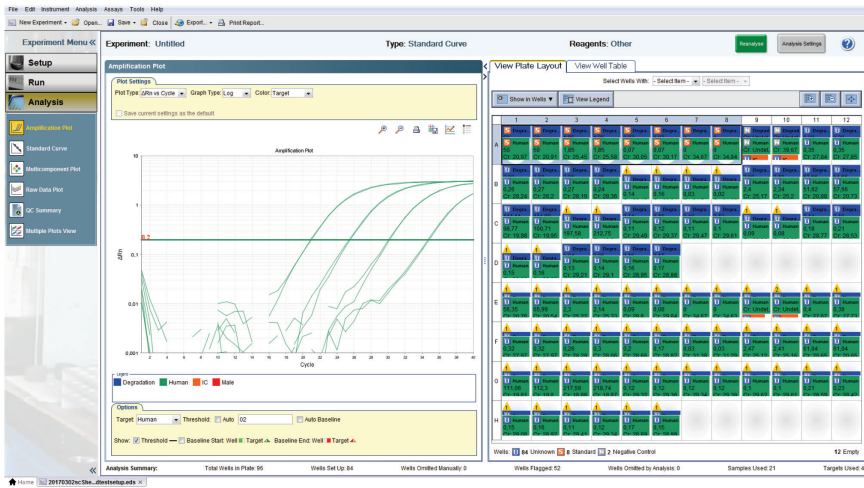

Figure 31. Sample analysis for the QPP_FAM, QPP_JOE, QPP_ATTO550 and QPP_ATTO647N channels.
4. In the **Amplification Plot** tab (found in the **Analysis** tab), select the appropriate samples in the table below the amplification plot. Choose **Human**, set threshold to **0.2**, deselect **Auto Baseline** and then press **Analyze**. Repeat this for Male, Degradation and IC with the thresholds listed below (Figure 31, next page):